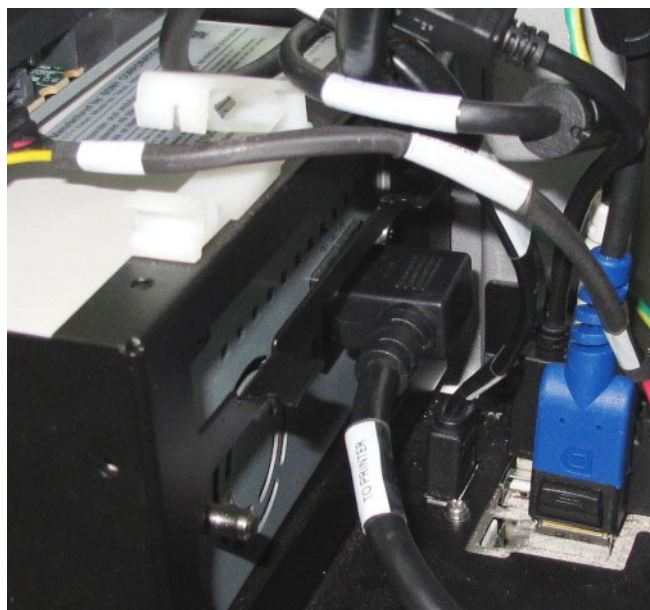

Figure 8-99 Peripheral Power Output Cable (Printer-to-AC Box)
2.) Disconnect the Peripheral Power Output Cable (Printer-to-AC Box) from the rear of the printer as shown in Figure 8-99.